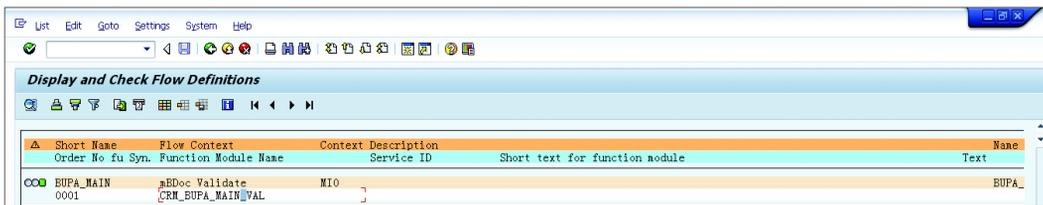

Figure 3.13 Display and Check Flow Definitions Screen
- 5 The inbound message flow triggers the validation service. As a part of the standard adapter object, CUSTOMER_MAIN is assigned with the MIO – mBDoc VALIDATE. The customer master load undergoes the validation; you can view the validate service function module via Transaction SMO8FD, as shown in Figure 3.13.